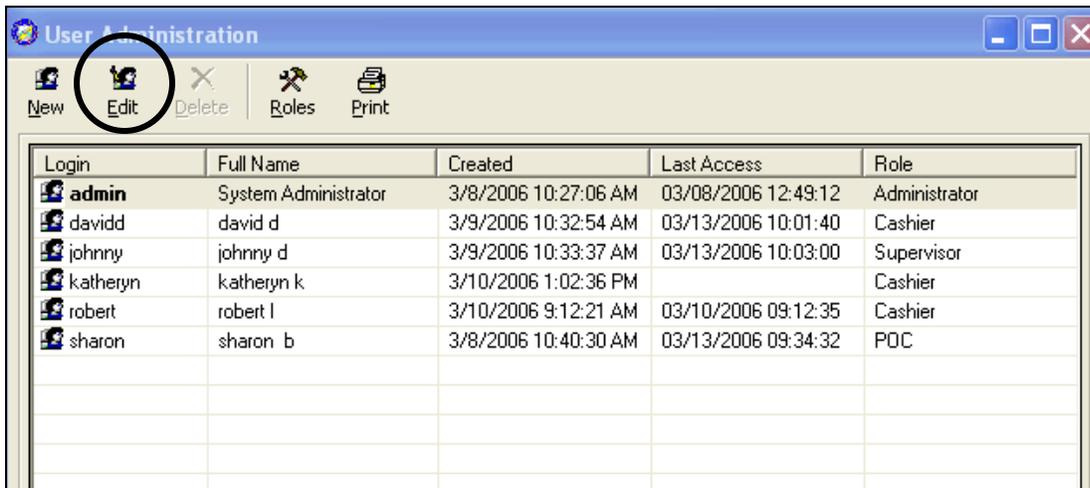

Figure 3.12
2. The screen will display all of the users as seen in Figure 3.12. Click to highlight the user to be edited then click the edit user button, or right-click on the user to be edited and choose ‘edit’.